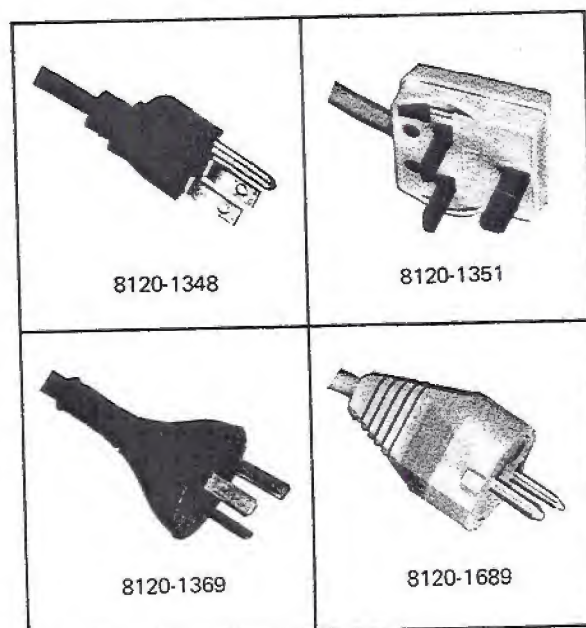

Figure 2-1. Available Power Cable Configurations
*See paragraph 2-15 and Figure 2-1.
2-15. Power cables are selected for shipment with each instrument; with a line connector plug to match the standard power cord for the country of destination on the purchase order. A label indicating the power cable inside is affixed to the packing case. Figure 2-1 indicates the connector plugs and the HP part numbers for the various available power cables and plugs.